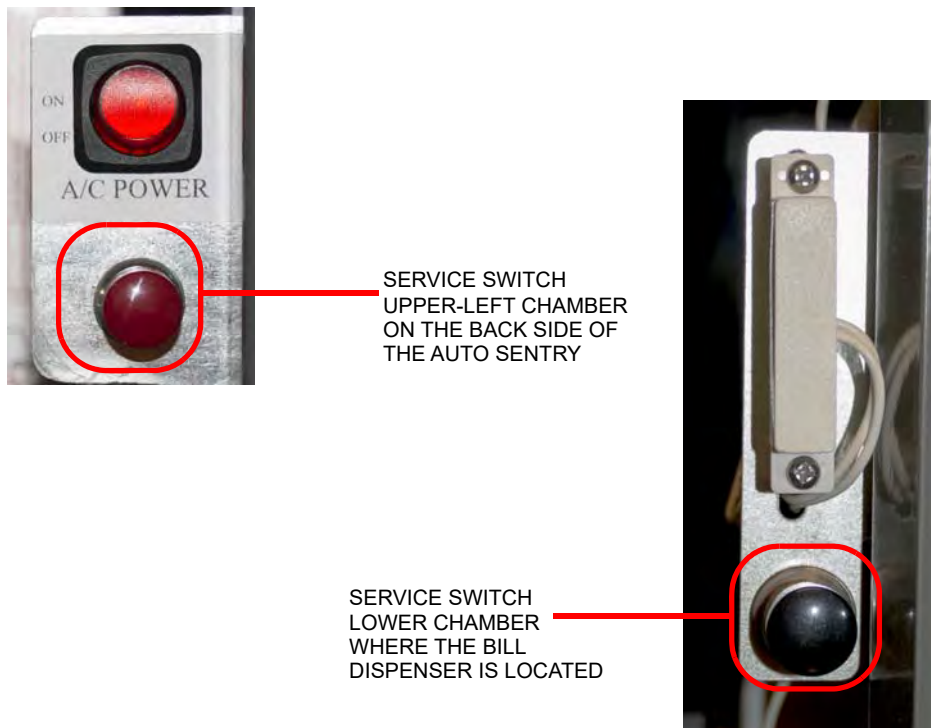

Figure 53. Service Unit Screen Buttons
- 2 Open the door with a hex key, and then locate the service button. See Figure 53.